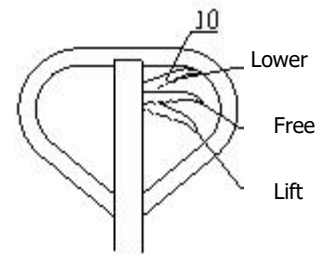

Fig. 5
4.2 Operate different positions of Control Handle Knob (10) to examine the lifting, free, and lowering positions. Check whether the different positions are operating correctly or not. See Fig 5.
5.3 See Fig 5: When hand knob 10 is placed on the lift position, the truck will be in a state of lift. At this time, if you rock the Handle the truck will be lifted.
5.4 See Fig 5: When hand knob 10 is placed on the free position, the truck will travel. At this time, if you rock the Handle, the truck will neither lift nor drop. Then, you can use the truck to move the cargo.
5.5 See Fig 5: When the hand knob 10 is placed in the Lower Position, the truck forks will drop automatically.